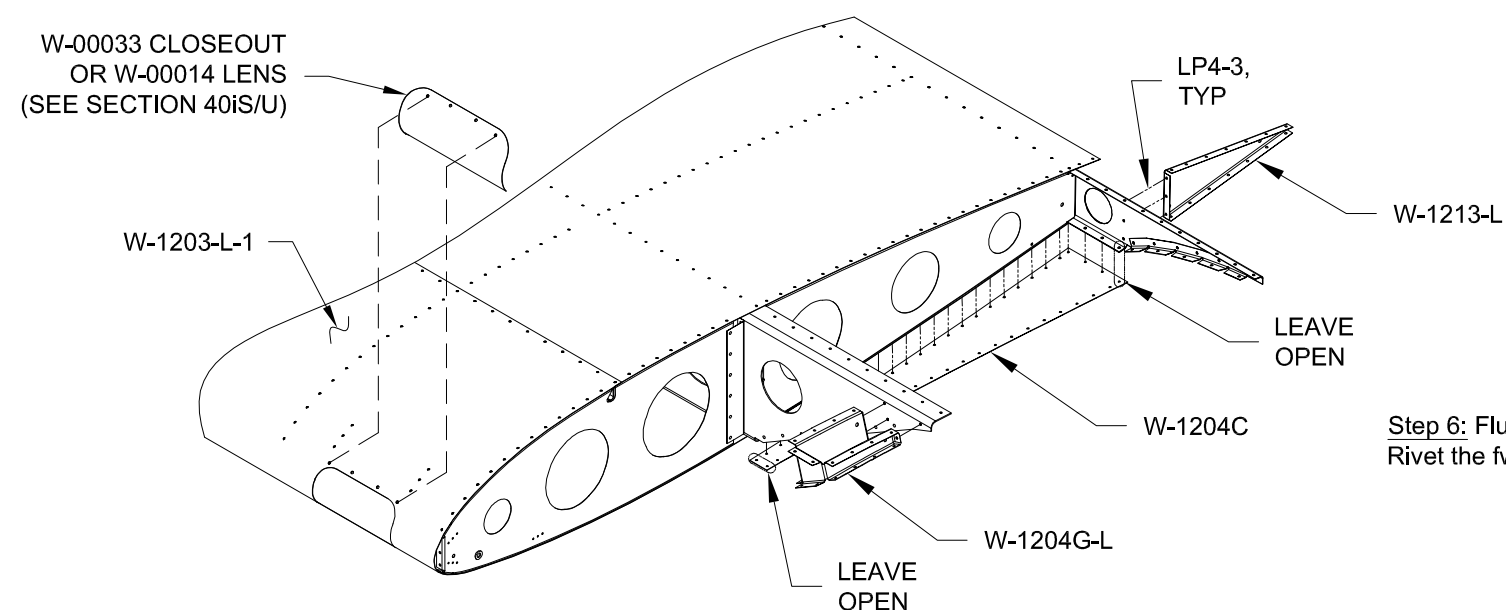

FIGURE 2: ATTACHING THE TIP RIB, HAND HOLD AND WING TIP BOTTOM SKIN
Step 2: Rivet the W-1213-L Tip Rib to the rear spar as shown in Figure 2. Rivet the W-1204G-L Hand Hold and W-1204C Wing Tip Bottom Skin to the wing as shown in Figure 2.